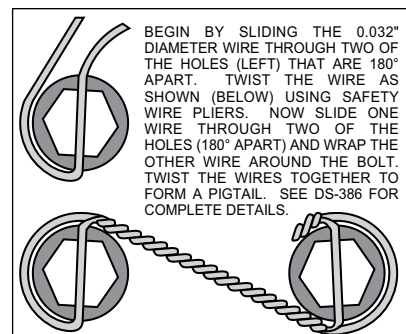

Figure 3. Safety Wire Diagram
- The axle bracket (1) and caliper mounting bracket assembly (2) should be installed first with clean, dry threads on the mounting bolts. Install the axle bracket (1) from the inboard side of the axle housing flange using the existing OEM bolts thread them into the four holes on the axle bracket (1). Next install the radial mount bracket (2) to the outboard side of the axle bracket (1) by sliding bolt (3) through washer (4), through the bracket (1) and place a shim washer (16) between the axle bracket (1) and radial mount bracket (2). The radial mount bracket (2) must tighten squarely against the outboard side of the axle bracket (1). Inspect for interference from casting irregularities, machining ridges, burrs, etc. Use one shim (16) between the axle bracket (1) and radial mount bracket (2) during initial trial fitting.
- With the larger I.D. side of the rotor (6) facing away from the hat (7), bolt rotor (6) to hat (7) through the backside of the rotor using washers (8) and bolts (9). Apply red *Loctite*® 271 to the bolt threads and torque to 155 **in-lb** using a criss-cross pattern. For an added measure of security, the bolts may be safety wired using standard 0.032 inch diameter stainless steel safety wire as shown in Figure 3. Please refer to Wilwood's data sheet DS-386 (available at www.wilwood.com/Pdf/DataSheets/ds386.pdf) for complete safety wire installation instructions.
- **NOTE:** To ensure proper clearance it is necessary to remove the torsion spring from the back side of the caliper. Caution should be used when handling springs. A compression spring (17) will be installed when installing the parking brake cable (see page 5).
- Slide the brake pads (15) up into the caliper (10) from the bottom until the "v" spring clip snaps into place against the anvil. They should install easily without interference.
- Install two shims (14) over each stud (13) on the radial mount bracket (2). Slide the caliper (10) in place over the studs and rotor and install the washer (12) and lock nut (11) to hold the caliper in place. The caliper bleed screw should be pointing toward the rear of the vehicle. Snug the lock nuts (11) and check that the caliper (10) is centered over the rotor (6). Add or subtract .016" shims (5) and/or .035" shims (16) as necessary between the axle bracket (1) and the radial mount bracket (2) to center the caliper (10) on the rotor (6).
- Check that the outside radius of the brake pad (15) is aligned with the outside diameter radius of the rotor face. Add or subtract shims (14) between the caliper (10) and radial mount bracket (2) to gain the proper alignment.